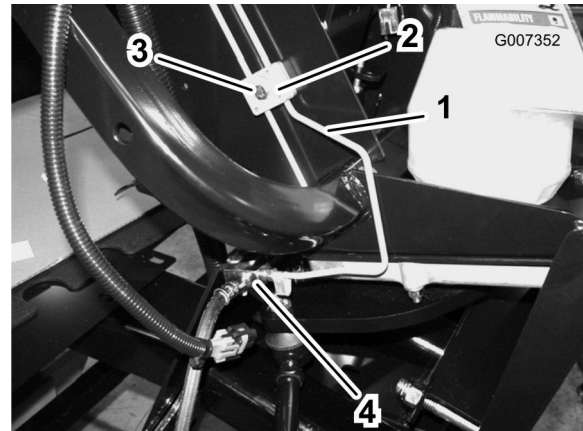

Figure 11
2. Install the front brake line (104-6798) from the master cylinder around the front frame tube (Figure 11). Use the tube clamps (one on each side), a bolt (1/4 x 1-1/2 inch) and lock nut (1/4 inch) to secure the line to the pedal box assembly.
3. Connect the front brake line to the "Tee" connection in the front hydraulic hose assembly installed previously (Figure 11).